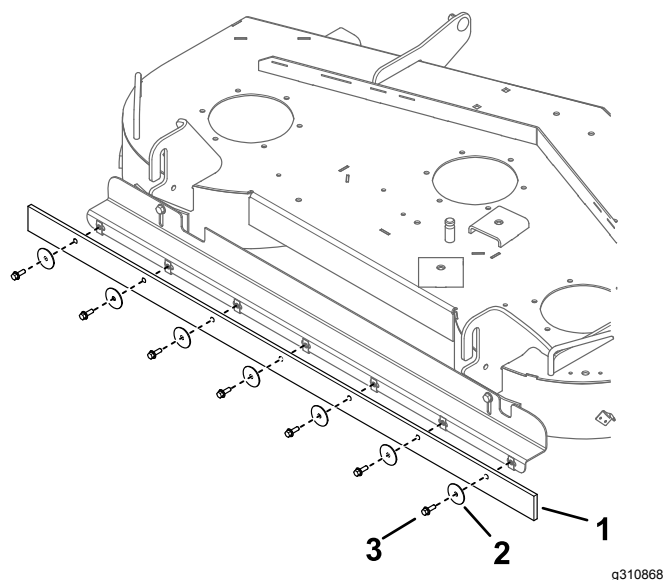

Figure 6
7. Install the wiper to the bracket using 7 bolts and 7 washers (Figure 6).